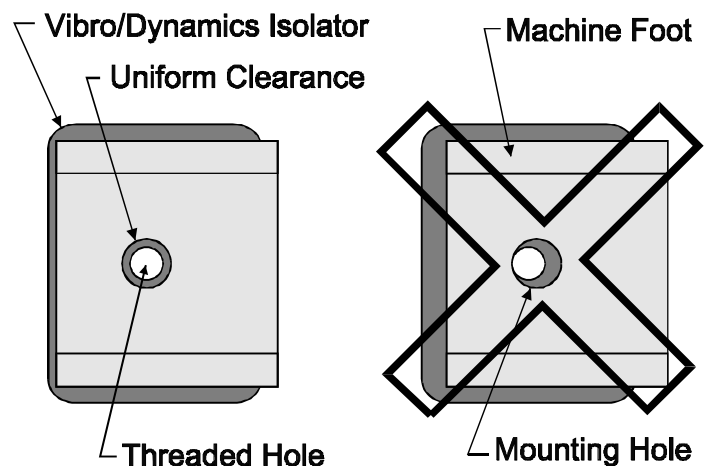

FIGURE 1
4. For isolators supplied with hold-down bolts, position each isolator under the machine foot so there is uniform clearance between the threaded hole in the isolator and the inside surface of the mounting hole (see Figure 1). Any contact between the hold-down bolt and the inside surface of the mounting hole as it is turned into the isolator housing can cause the leveling screw to jam.